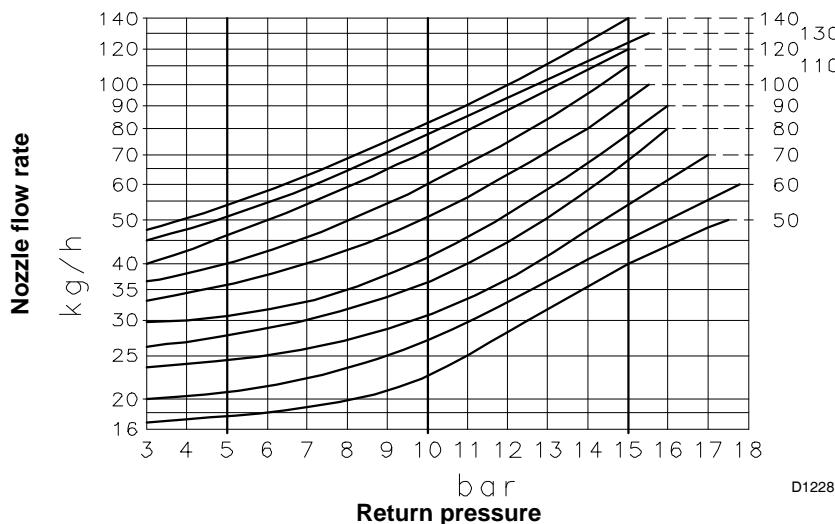
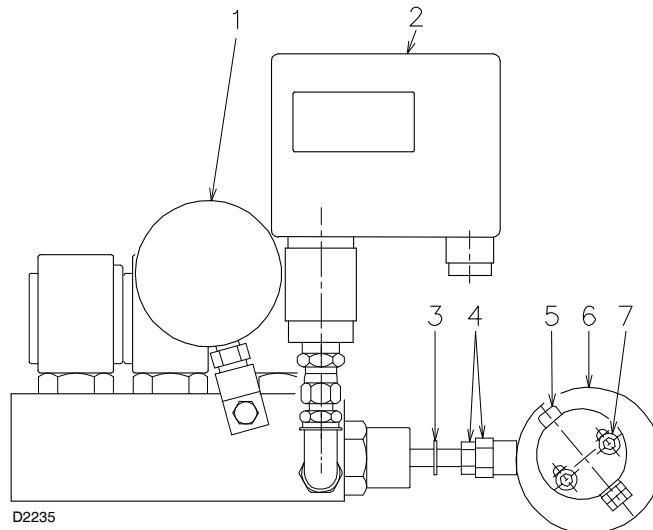

Fig. 25
Fig. 26
Diagram (Fig. 25) indicates this relationship for type A3 and A4 Bergonzo nozzles with pump delivery pressure of 20 bars.
Diagram (Fig. 25):
The nozzle return pressure value is indicated by the pressure gauge 1) (Fig. 26).
The fine adjustment of the pressure in the return line may be carried out by changing the setting of the eccentric 6) (Fig. 26), of the nut and lock-nut 4) (Fig. 26).
- Do not let the piston beat repeatedly: the stop ring 3) (Fig. 26) determines the max. stroke.
- When the setting is carried out, verify manually that no slow-down occurs between (page 18) 0° and 130° and that the maximum and minimum pressures correspond to those chosen as per diagram (Fig. 25, page 20).
The nozzle flow rate is given in diagram (Fig. 25, page 20) corresponding to the pressure on the nozzle return read on the pressure gauge 1) (Fig. 26, page 21).